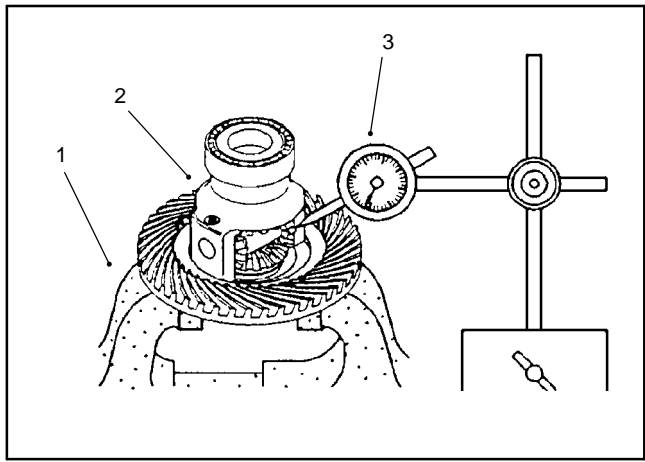

Figure 39
5. Secure the differential case in a vise. Position a dial indicator at the tooth center and measure the differential pinion gear to side gear backlash (Fig. 39).